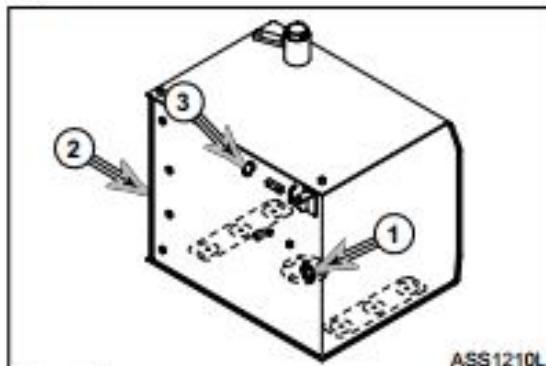

Figure 8
12. Tag and disconnect wires leading to fuel sensor (1, Figure 8) on side of fuel tank (2).
13. If equipped, remove components from fuel filler pump port (3, Figure 8) on side of fuel tank (2).